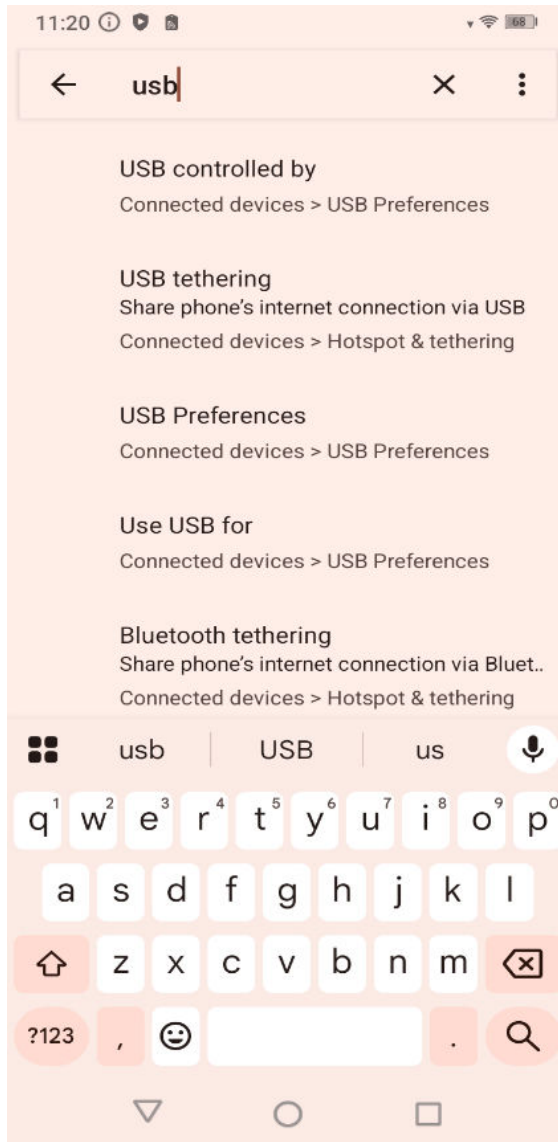
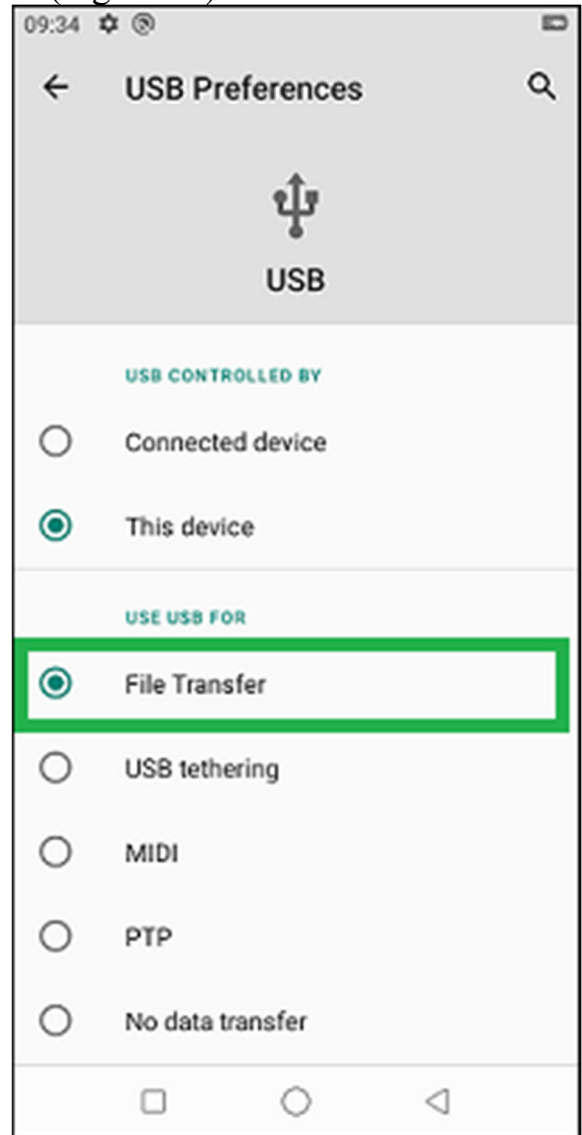

Figure 10 – USB controlled by
Figure 11 – File transfer
5. Click on the “USB controlled by” (Figure 10) and then click on the “File transfer” (Figure 11)